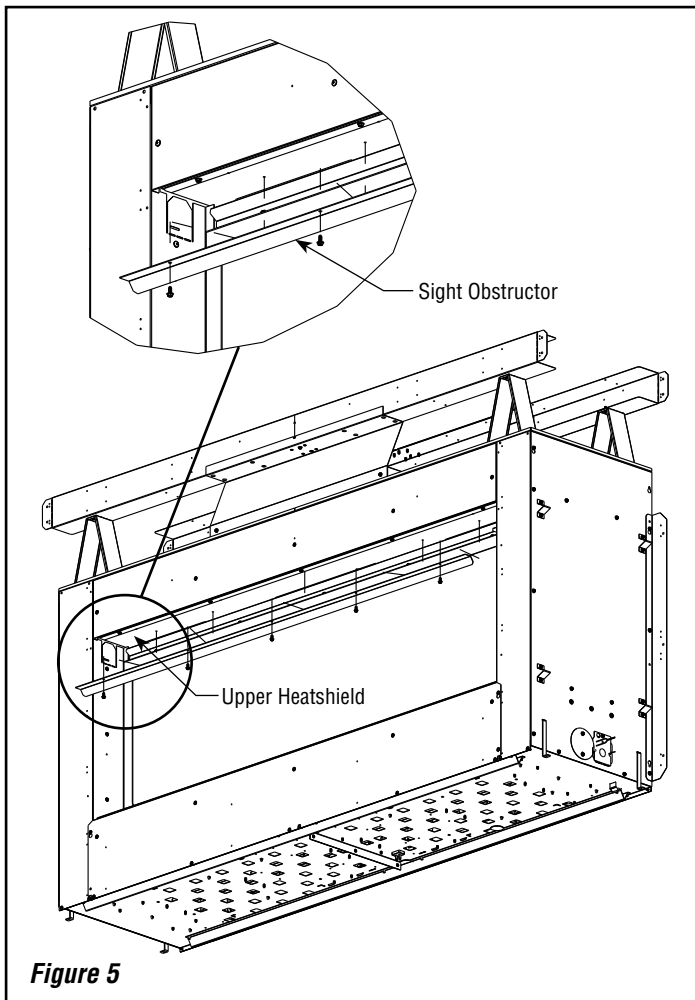

Figure 5
7. Attach the remaining sight obstructor to the upper heatshield as shown using #10 hex head screws (see **Figure 5**).